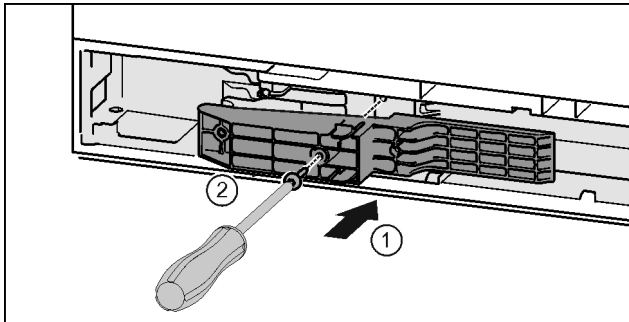

Fig. 45 \*
- ▶ Install the adapter on the handle side in the slot. Fig. 45 (1)\*
- ▶ Tighten the screw with a T15 screwdriver. Fig. 45 (2)\*